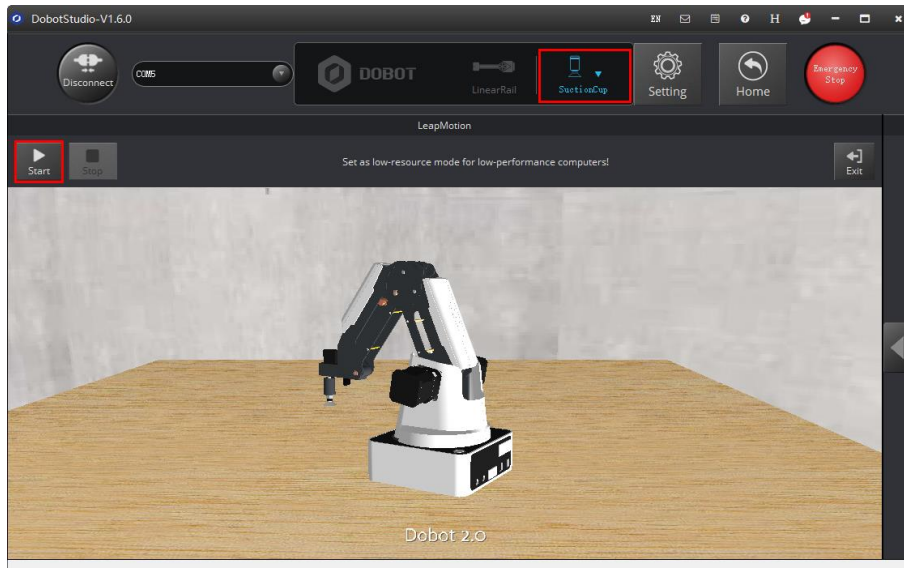

Figure 5.110 Click Start
Step 5 Choose **SuctionCup** as the end-effector on the **DobotStudio** page, and click **Start** to control the **Dobot Magician** with your hand gesture, as shown in Figure 5.110. To maintain the Dobot Magician in a stable state, move your hand into the workspace of the Leap Motion controller while keeping your palm upward. And turn your palm down, and then move your hand above this area to control the Dobot Magician.